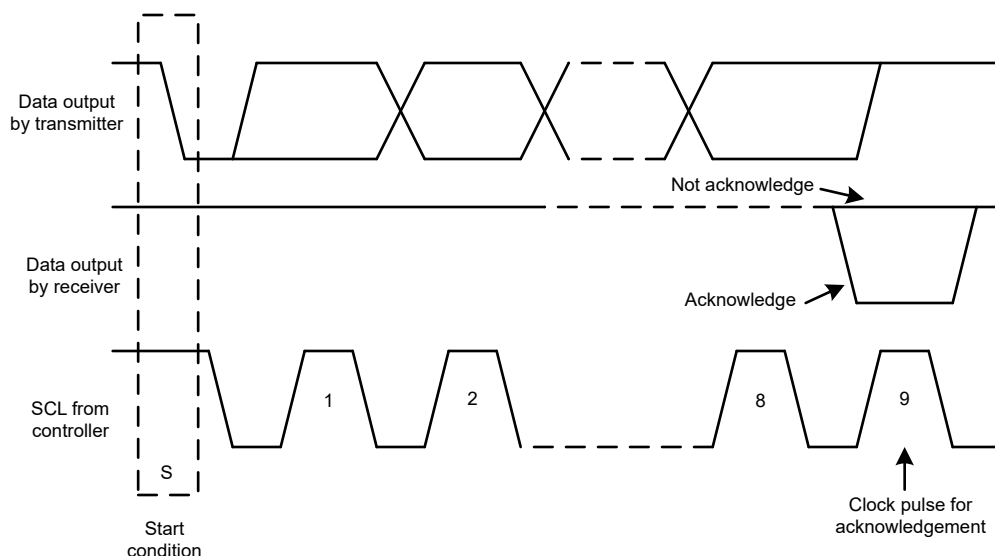
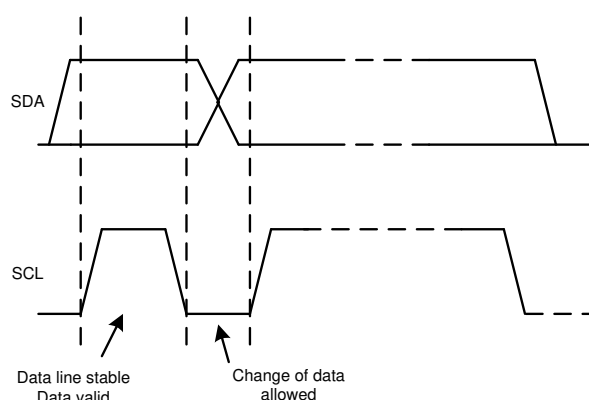

Figure 7-9. Acknowledge and Not Acknowledge on the I²C Bus
Figure 7-11. Bit Transfer on the I²C Bus
Other than specific timing signals, the I²C interface works with serial bytes. At the end of each byte, a ninth clock cycle generates and detects an acknowledge signal. An acknowledge is when the SDA line is pulled low during the high period of the ninth clock cycle. A not-acknowledge is when the SDA line is left high during the high period of the ninth clock cycle, as shown in Figure 7-9.
2. The controller then generates the SCL pulses, and transmits the 7-bit address and the read/write direction bit (R/\overline{W}) on the SDA line. During all transmissions, the controller makes sure that data are valid. A valid data condition requires the SDA line to be stable during the entire high period of the clock pulse, as shown in Figure 7-11. All devices recognize the address sent by the controller and compare the address to the respective internal fixed address. Only the target device with a matching address generates an acknowledge by pulling the SDA line low during the entire high period of the 9th SCL cycle, as shown in Figure 7-9. When the controller detects this acknowledge, the communication link with a target has been established.